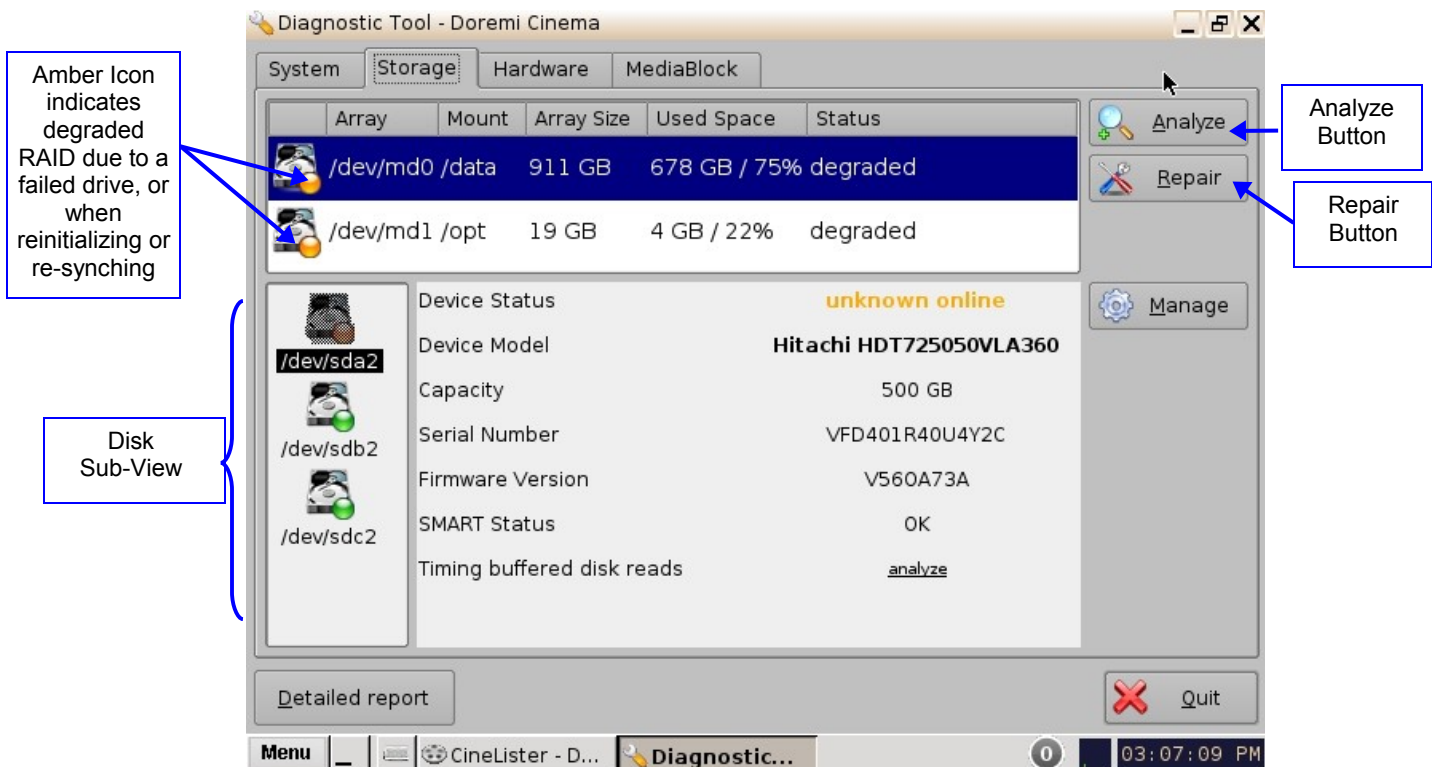
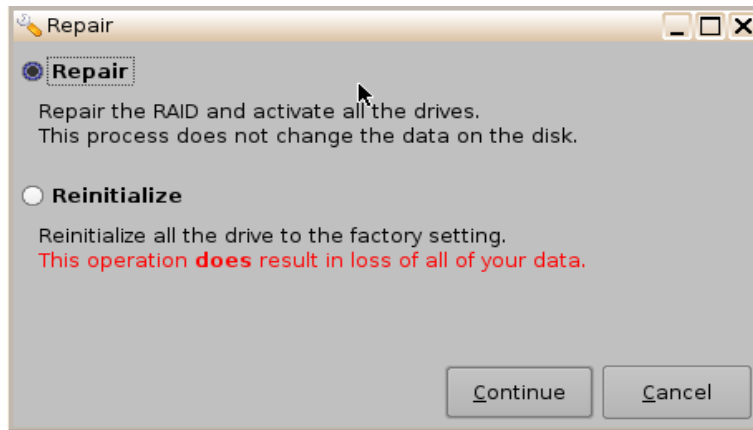

Figure 27: Storage Tab - Degraded RAID
Figure 28: Repair Window
- The Storage tab will display the failed drive in the Disk sub-view (Figure 27) telling the user that the drive needs to be replaced. The RAID sub-view will present you with the RAID status.
- Select the affected drive from the Disk sub-view and click on the Repair button (Figure 27). The user will be prompted to the Repair window (Figure 28).
From the Repair window (Figure 28), click Continue. The Disk Replacement Wizard window will appear: